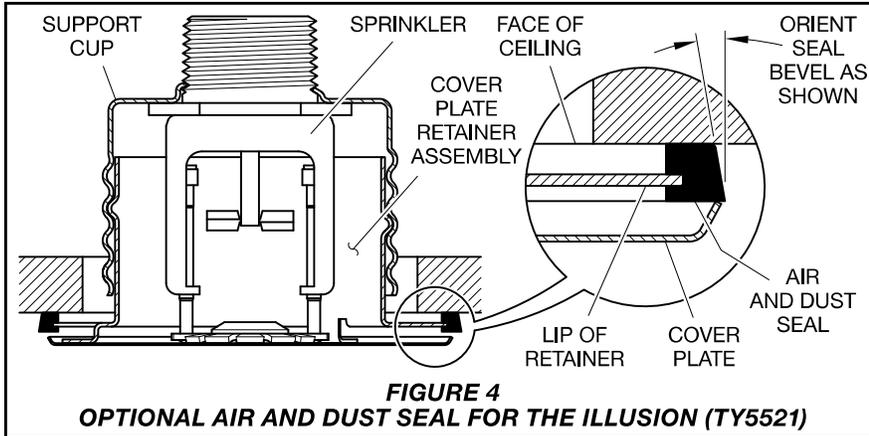

FIGURE 4
As an option, the ILLUSION pendent sprinklers may be fitted with a silicone air and dust seal as shown in Figure 4. The air and dust seal is intended for sensitive areas where it is desirable to stop air and dust travel through the cover plate from the area above the ceiling.
Step 7. When installing an air and dust seal, see Figure 4 for reference and follow this step; otherwise proceed to Step 8. To attach the air and dust seal, verify the angle of the outside edge of the seal is oriented according to Figure 4. Start the edge of the retainer in the grooved slot of the air and dust seal and continue around the retainer until the entire air and dust seal is engaged.
Step 8. Screw on the cover plate/retainer assembly until the retainer as shown in Figure 2, or air and dust seal as shown in Figure 4, makes contact with the ceiling. Do not continue to screw on the cover plate/retainer assembly such that it lifts a ceiling panel out of its normal position. If the cover plate/retainer assembly cannot be engaged with the support cup or the cover plate/retainer assembly cannot be engaged sufficiently to contact the ceiling, the sprinkler fitting must be repositioned.